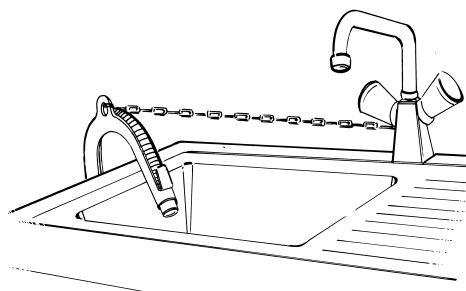

Fig. 2
2. Fit the drain hose either to the siphon or hook it over the edge of a sink or bath tub with the "U" bend (Fig. 2). Small hand basins are not suitable.
Make sure that there are no kinks in the drain hose run and take precautions against it falling while the appliance is running (Fig. 2).